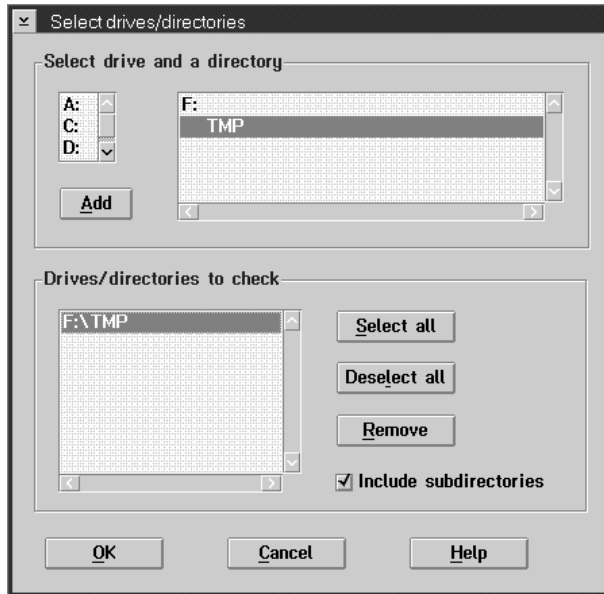

Figure 118. Select drives/directories window
3. Check the **Selected drives/directories** radio button and click on the first **More...** push button in the same group box. The Select drives/directories window is displayed, as shown in Figure 118 on page 198.